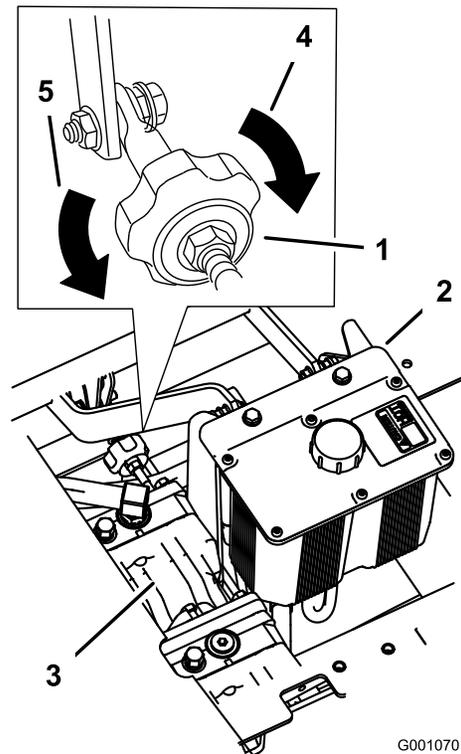

Figure 57
4. To make the machine go right, turn the knob towards the right side of the machine. Refer to Figure 57.
5. To make the machine go left, turn the knob towards the left side of the machine. Refer to Figure 57.